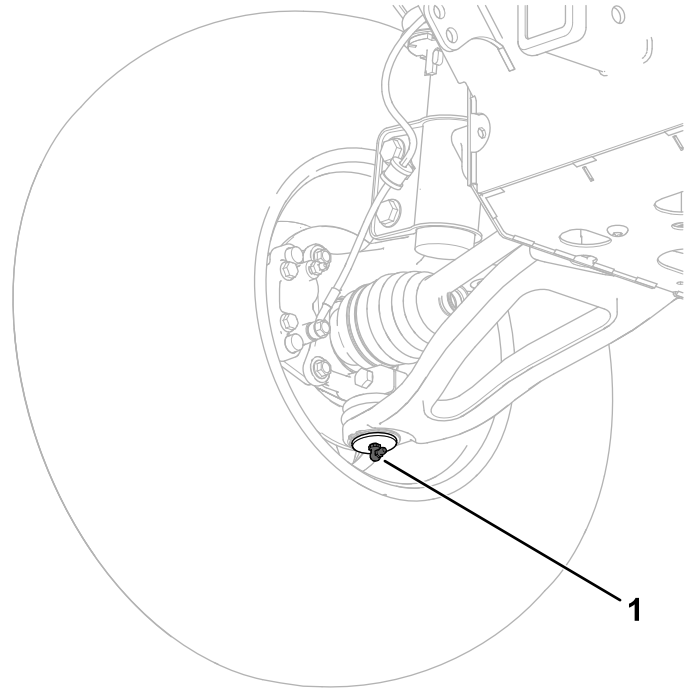

**Figure 80**
- **Rear control arm pivots (4);** refer to Figure 80